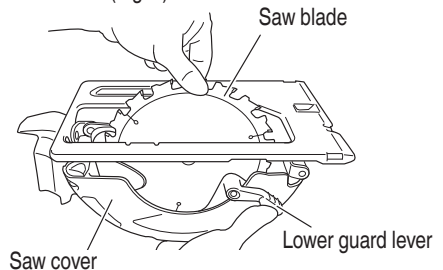

Fig. 7
- (2) Depress the lock button, lock the spindle, and remove the left-hand bolt and washer (B2) with the hex. bar wrench.
- (3) While holding the lower guard lever to keep the lower guard fully retracted into the saw cover, remove the saw blade (Fig. 7).